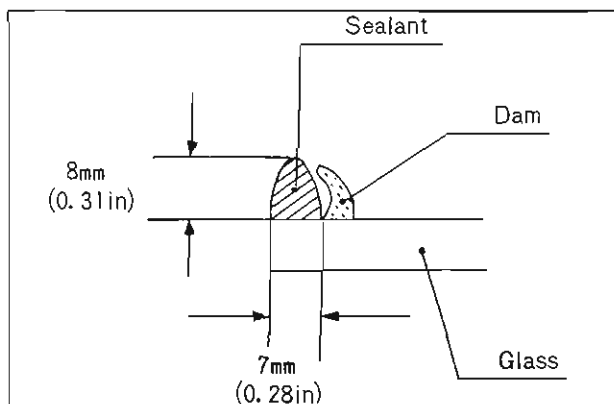

Fig. 14-32 Detail B of Fig. 14-31
8. Firmly press the glass against the sealant with hand pressure. Then, inspect the appearance of the sealant through the glass. A dull spot indicates an area where the sealant does not contact glass surface. Additional hand pressure will seal most areas. When installing the glass, 5.8 mm (0.23 in) clearance should exist between the body and the glass. Check the clearance at the four positions shown in Fig. 14-32.